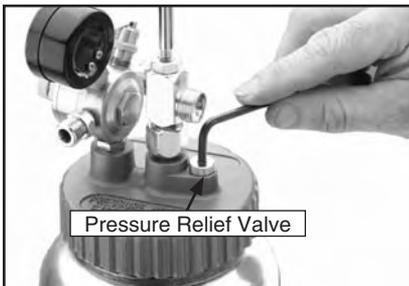

Figure 20. Pressure relief valve.
1. Depressurize the cup by disconnecting from the compressed air and bleed the system by loosening (DO NOT REMOVE) the pressure relief valve until "zero" pressure is recorded on the pressure cup gauge (see **Figure 20**).